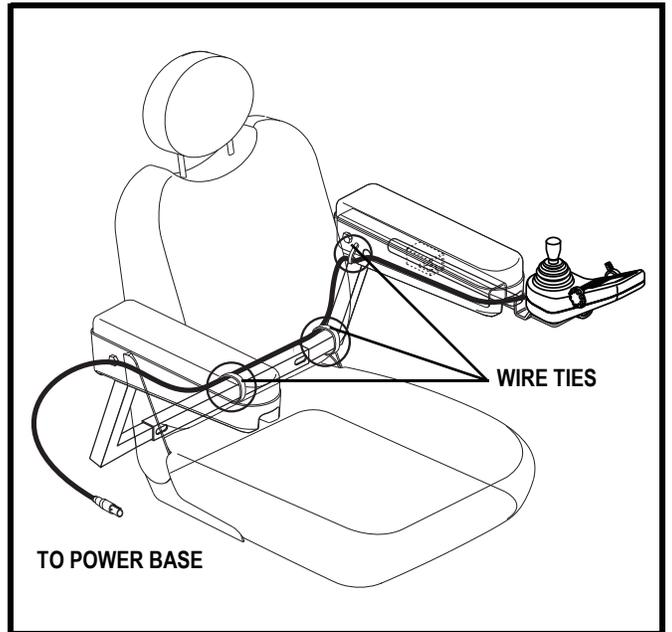

Figure 10. Controller Harness Routing on a Contour Seat
6. Secure the controller harness to the armrest receiver with wire ties. See figure 10.
11. Secure the controller harness to the armrest with wire ties. See **figure 10**.